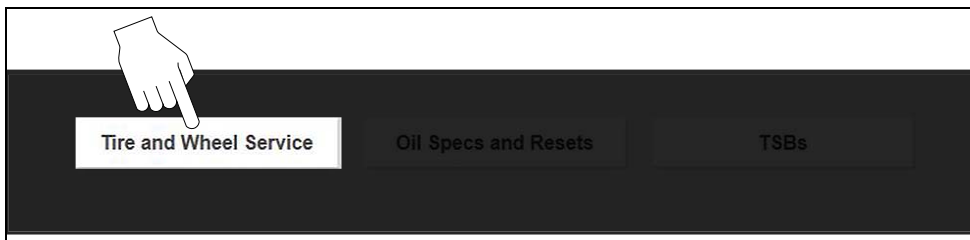

Figure 10-13
- **From the Home screen** - select the **Quick Lookups** icon (Figure 10-13), then select **Tire and Wheel Service**, then proceed to Step 1 below.